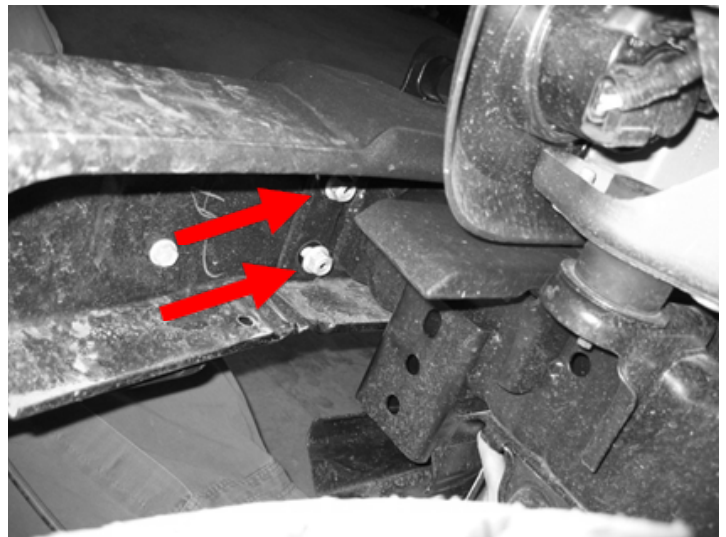

Figure 2
5. Using an 18mm deep socket wrench, remove the four (4) nuts attaching the bumper to the frame horns. (Figure 2)